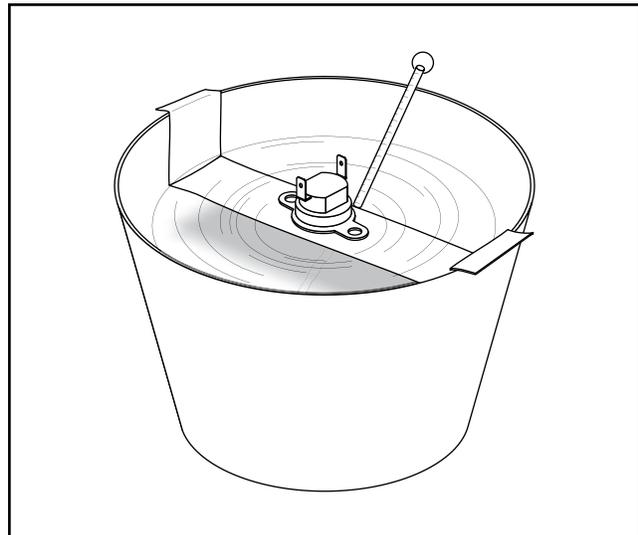

Figure 43. Testing the Oil Temperature Switch
7. Immerse the sensing tip of the switch in oil as shown in Figure 43, along with a suitable thermometer.